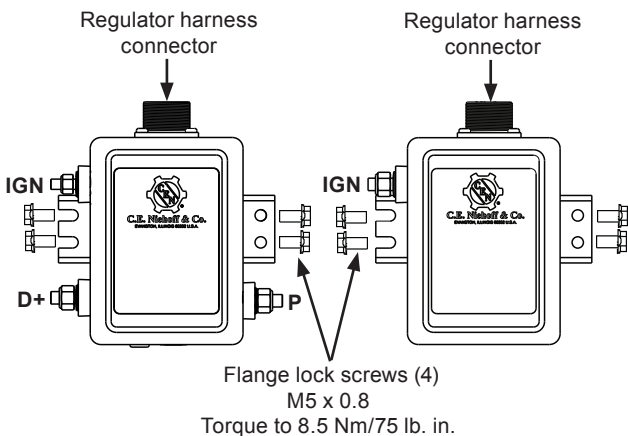

Figure 7: Conventional Series Regulator Connections
4. Plug alternator-to-regulator harness into 6-pin receptacle on regulator. See Figures 7 and 8 for receptacle location.
- **IGN terminal (required)** must receive voltage from vehicle DC ignition source or multiplex in order to energize regulator. Torque to 4.5 Nm/40 lb. in. See Figures 7 and 8.
- **D+ terminal (if required)** provides DC system battery voltage to vehicle (5A maximum) for charge indicator lamp, relay, or multiplex while alternator is producing output. Torque terminal hardware to 4.5 Nm/40 lb. in. See Figures 7 and 8.
- **R/P/AC terminal (if required)** taps AC voltage from alternator, typically half the charge voltage (3A maximum). R/P/AC terminal provides alternator RPM frequency at 10:1 ratio for use with tachometer. Torque terminal hardware to 4.5 Nm/40 lb. in. See Figures 7 and 8.